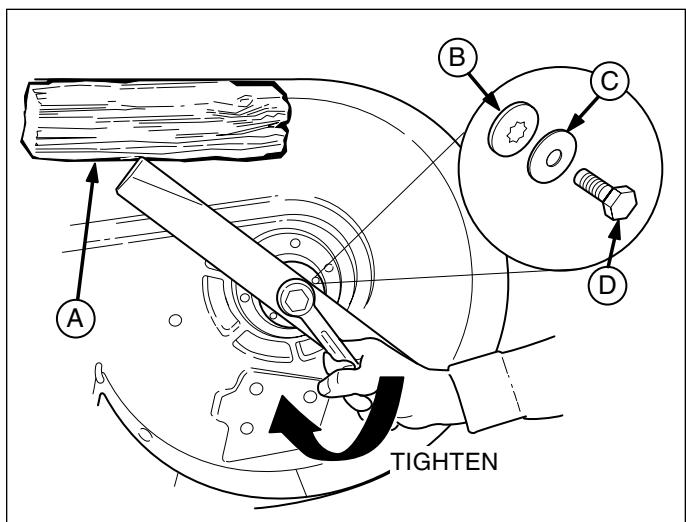

Figure 19. Installing The Blade
6. Reinstall each blade with the tabs pointing up toward deck as shown in figure 19. Secure with a capscrew (D), cup washer (C) and spline washer (B). Use a wooden block to prevent blade rotation and torque capscrews to 45-55 ft.lbs. (61-75 Nm.).